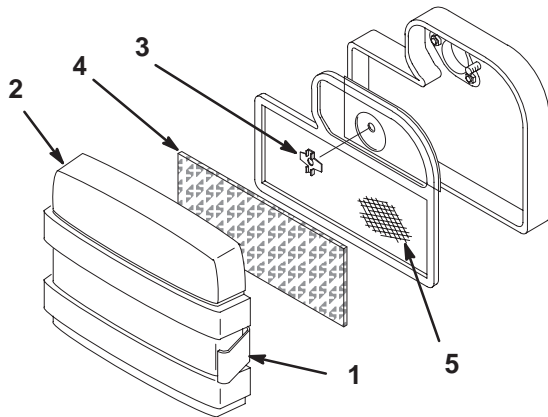

Figure 25
3. Clean around the air cleaner to prevent dirt from getting into the engine and causing damage. Pull out on retaining latches and remove the air cleaner cover (Fig. 25).
4. Unscrew nut and remove the air cleaner assembly (Fig. 25).
5. Carefully pull the foam element off the paper element (Fig. 25).
1. Carefully place the foam element onto the paper air cleaner element (Fig. 25).
2. Place the air cleaner assembly onto the air cleaner base (Fig. 25). Secure with nut.
3. Install the air cleaner cover and secure latches (Fig. 25).